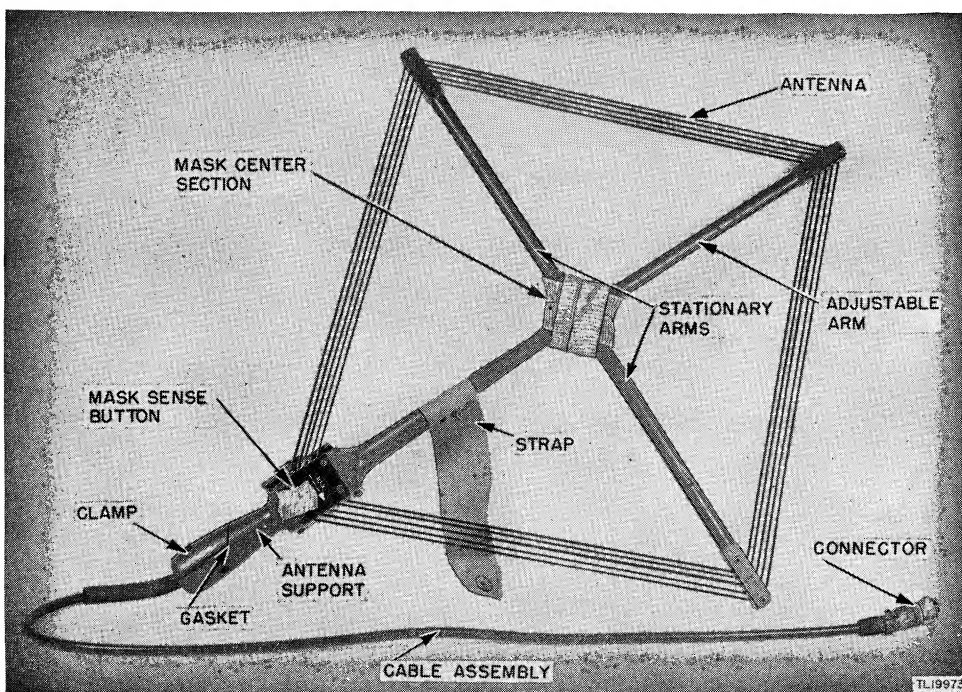

Figure 46. Loop antenna, masking.
(1) Center piece of the loop antenna. (See fig. 46.)
(2) Sense button. (See fig. 46.)